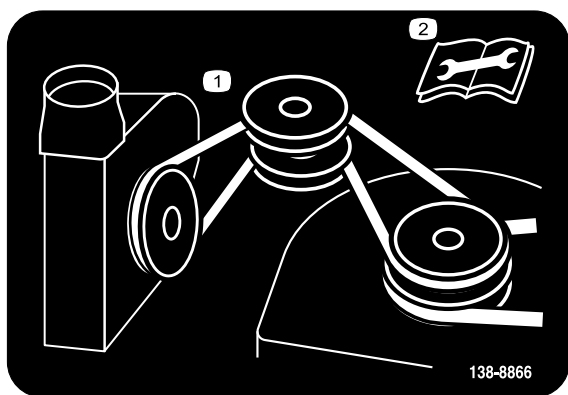

Figure 27
8. Install the belt around the blower and idler pulleys as shown in Figure 27. Place the belt